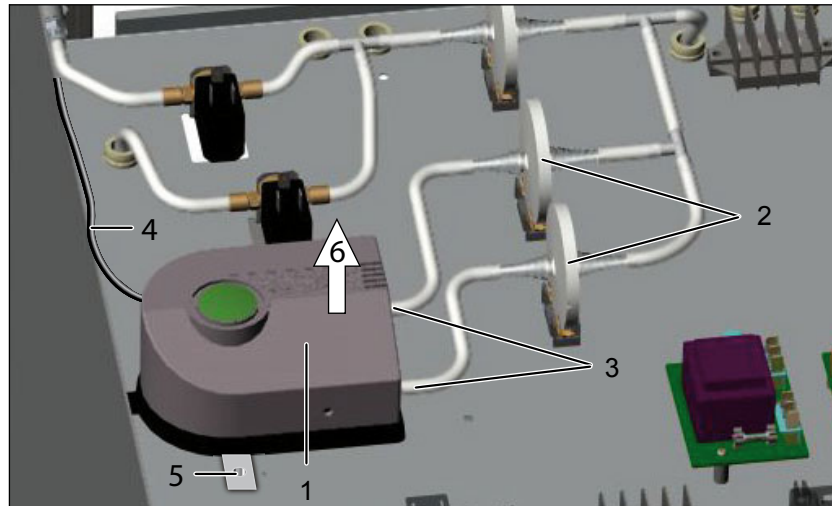

Fig. 31 Humidity restriction in the control unit
2. Check that all tubes are connected to the humidity restriction pump and the two accompanying sterile filters, and that they are undamaged (Fig. 31).
3. Check the two sterile filters (2) for contamination (permeability). If they are dirty, replace the sterile filters (see also page 24).
4. Check that the connection lead for the humidity restriction pump (4) is connected properly.
2. Pull off the tubes from the pump (Fig. 31, 3).
3. Pull off the flat connector of the connection lead (4) on the humidity/CO₂ module.
4. Undo both screws on the mounting bracket (5) and remove the pump (6).